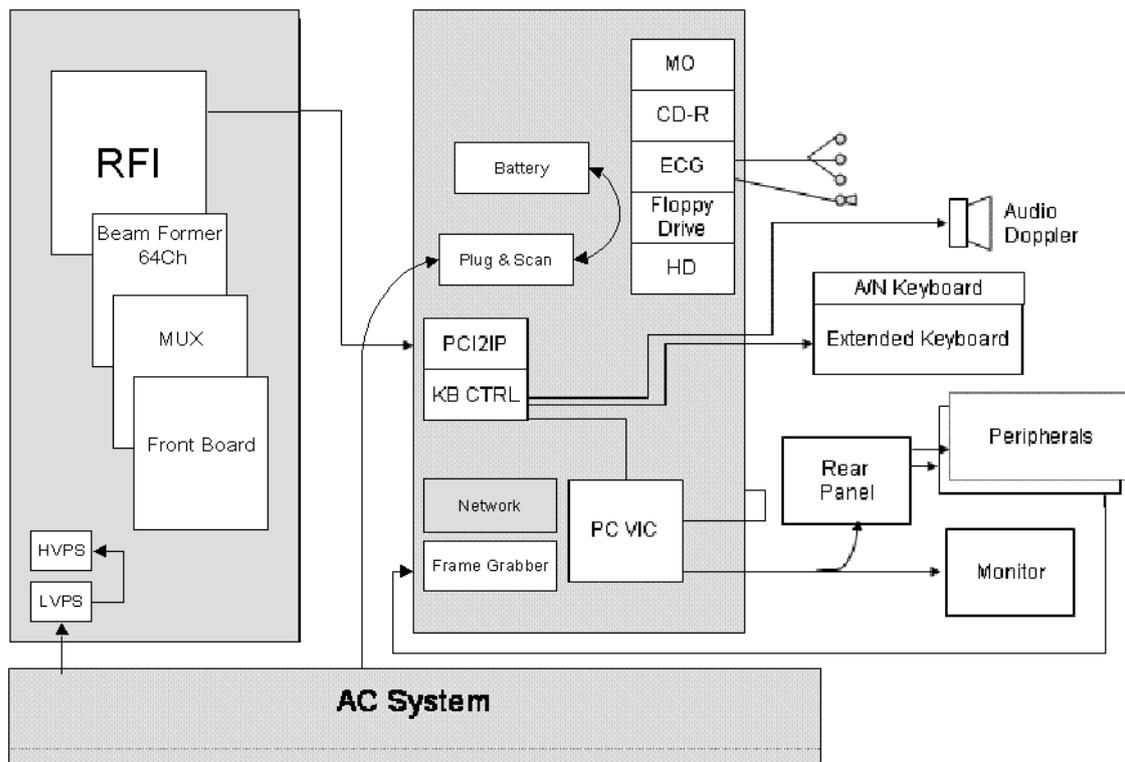

Figure 5-1 System Block Diagram - Vivid™ 4 BT03 Systems with RFI Configuration
- System Block Diagram - Vivid™ 4 BT03 Systems with RFI Configuration (see Figure 5-1 below).
- System Block Diagram - Vivid™ 4 BT03 Systems with RFI Configuration (see Figure 5-1 on page 5-3).